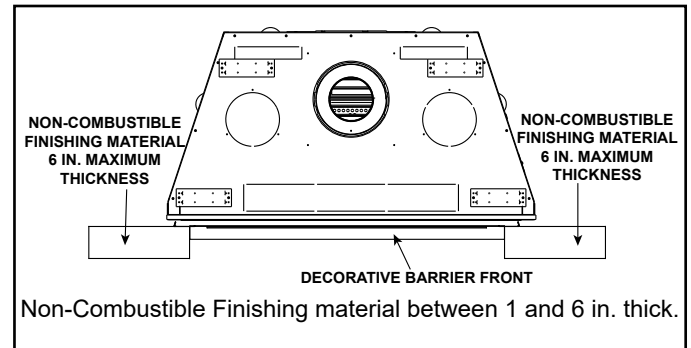

Figure 10.11 Inside Fit Decorative Barrier Front
- Inside Fit as shown in Figure 10.11. Decorative barrier front fits inside appliance opening.